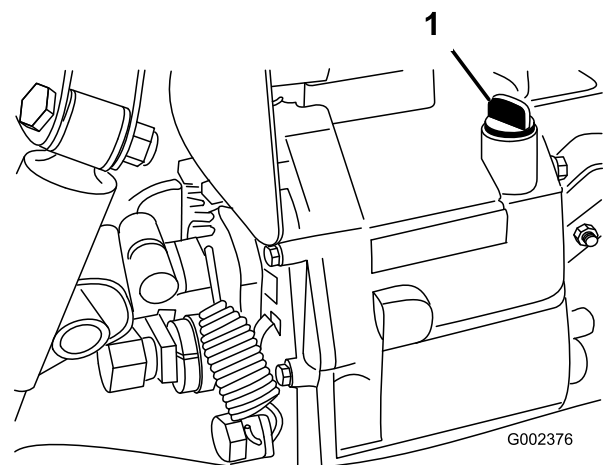

Figure 15
- Clean the area around the dipstick (Figure 15).